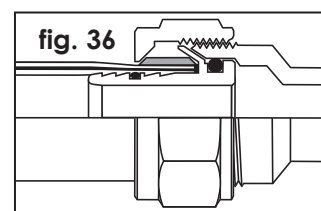

fig. 36
e) Tighten the nut with a torque of 40 Nm (fig. 36).